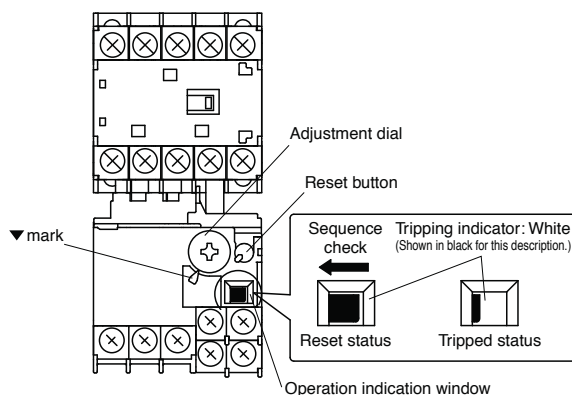

Figure 1
1) Adjusting the Current [Figure 1]
2) Operation Indication [Figure 1]
3) Sequence Check [Figure 1]
4) Reset Method [Figure 1]